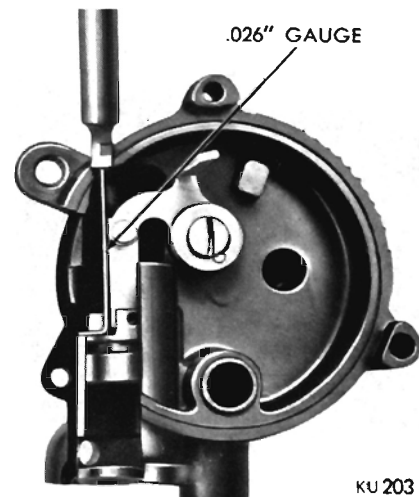

Fig. 15—Choke Piston Indexing
(1) Remove choke housing retainer ring, heat tube cap and choke coil housing, baffle plate and gasket.
(2) Remove throttle return spring so throttle can be set to a mid position.
(3) Let choke blade go wide open.
(4) Insert an .026 inch wire gauge* into choke piston slot so that hook on the end goes into slot in cylinder (Fig. 15).
(5) Push on choke piston lever thermostat tang